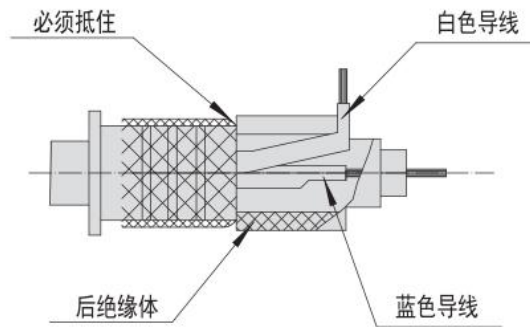

Figure 3.9
④ As shown in Figure 3.9, bend the white wire outward and put it into the slot of the insulator. The blue wire passes through the insulator, and the end of the insulator must cover the shield layer.